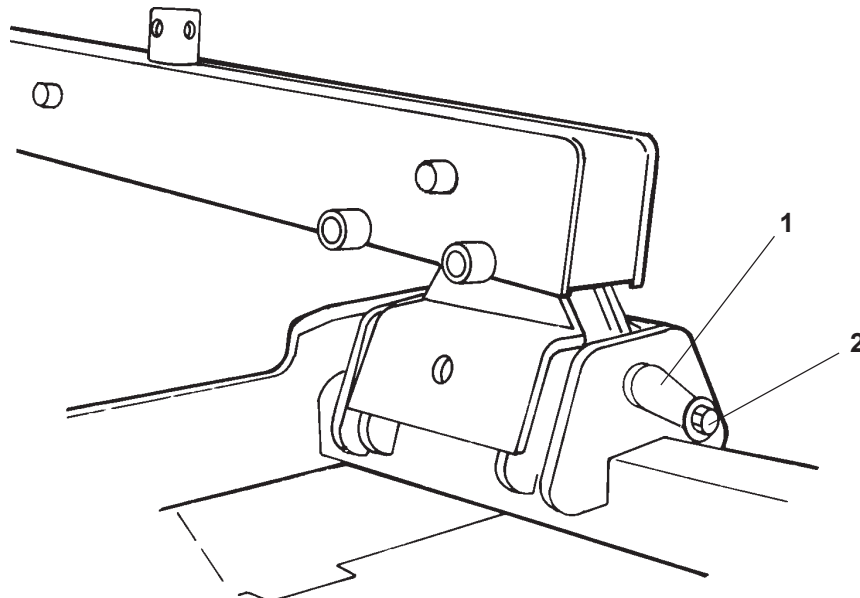

FIGURE 7
Position the Wing Mowers under the Wing Lift Arms and remove the Attachment Pin (1) from the Swivel. Attach the Wing Mower to the Lift Arm and secure with 1/2" x 1-1/2" Bolt, (2) flatwasher, and locknut. **Figure 7**.